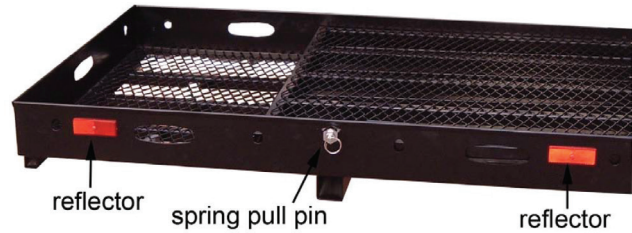

Figure 4-3
3. Screw spring pull pin into carrier. Add reflectors. *See Figure 4-3.*